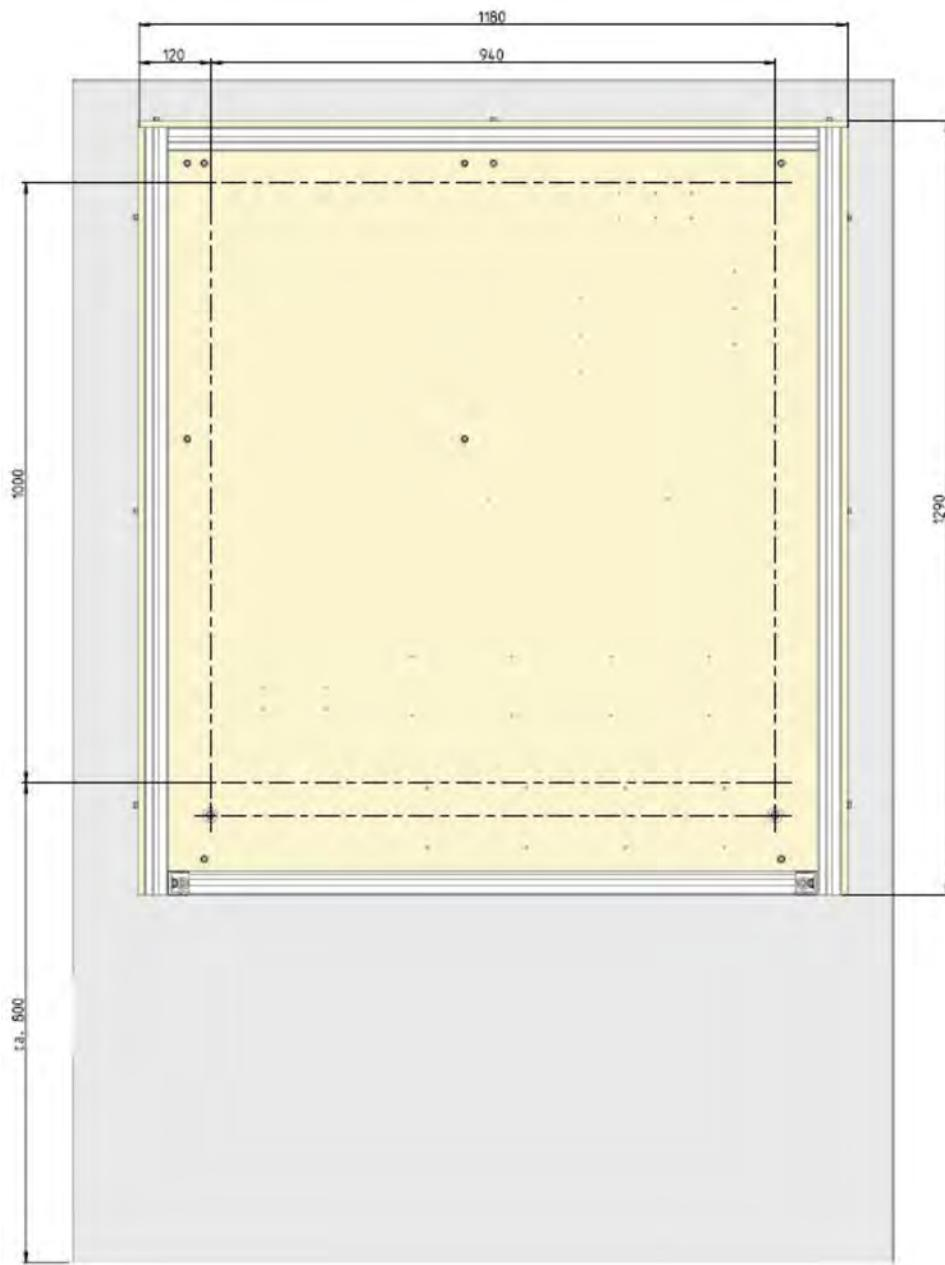

Fig. 11: Assembly diagram
2. → Mark the drill holes on the wall according to diagram Fig. 11.